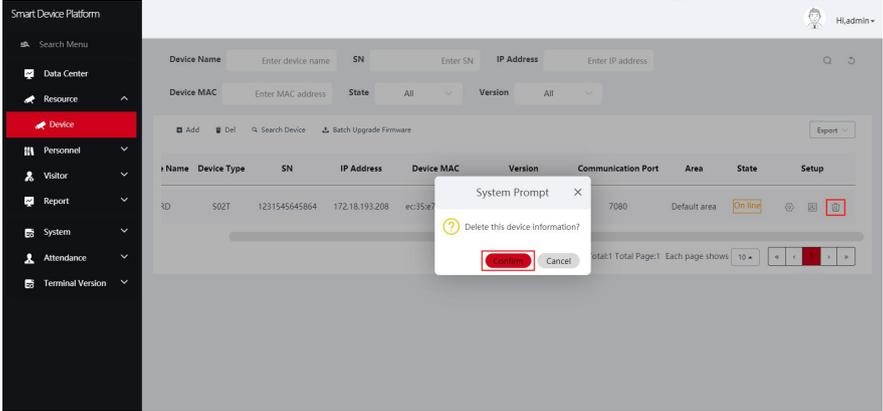

Figure 5-14
Step 2: Click the "🗑️" to delete the device →"Confirm", as shown in Figure 5-14 below.